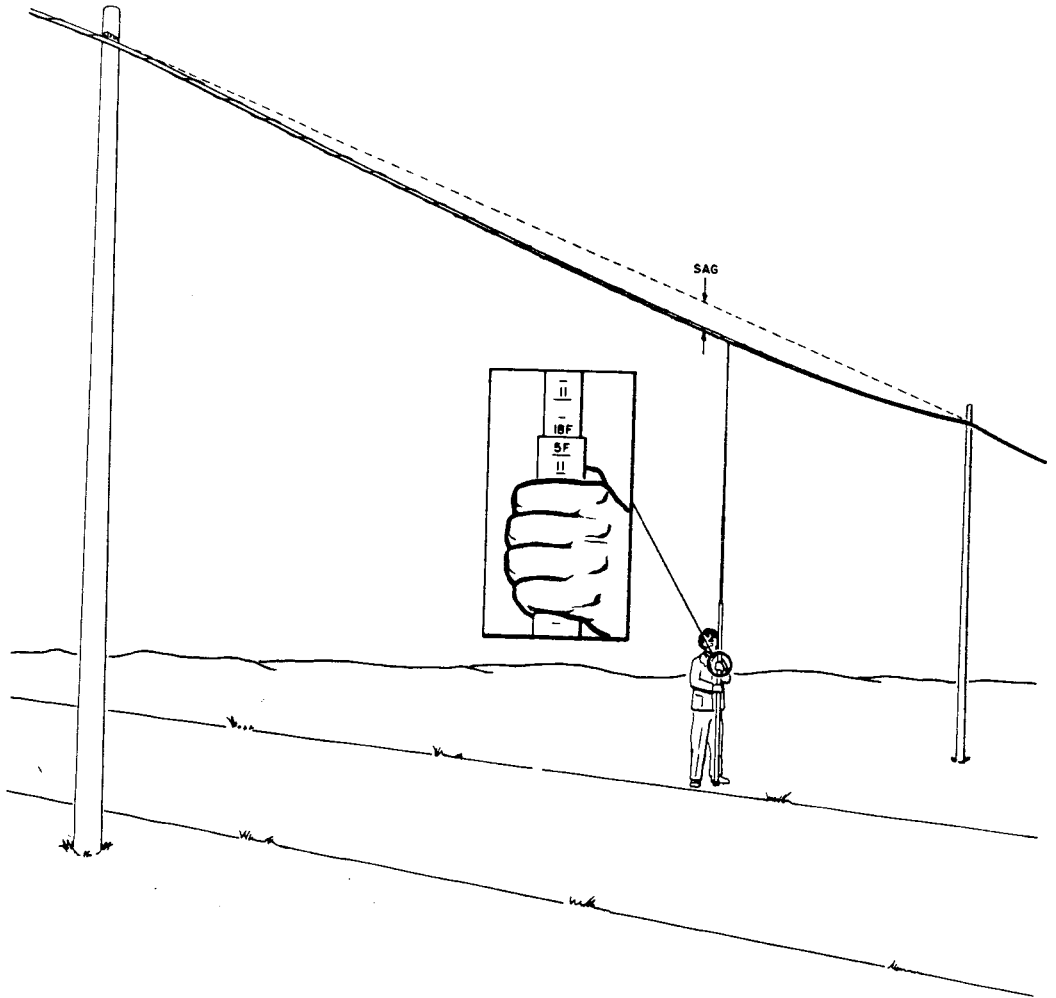

Fig. 18—Measuring Ground Clearance With B Clearance Rule
5.10 With the rule extended and approximately vertical, bring it into contact with the object being checked. With the bottom of the rule firmly on the ground, press the nylon button at the top of the bottom section and let the upper parts of the rule slide until the tip just touches the underside of the wire being measured. Read the rule where the top edge of the bottom section intersects the adjacent section (Fig. 18).